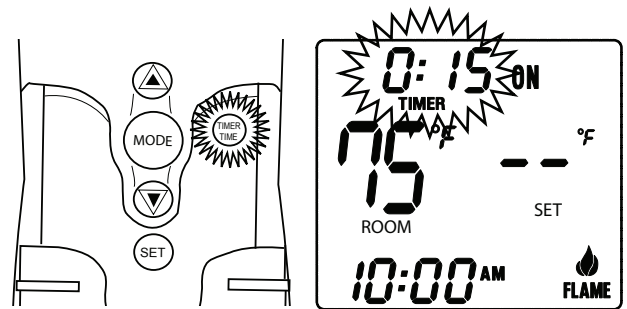

Fig. 19 Setting Timer
1. Press and release the TIMER/TIME button on the transmitter. The word **TIMER** will appear and 0:15 minutes will begin blinking on the screen (Fig. 19).
2. Press the UP or DOWN button on the transmitter to begin advancing through each of the countdown time options. Available countdown times are 15 minutes, 30 minutes, 45 minutes, 1 hour, 1 hour 30 minutes, 2 hours, 2 hours 30 minutes, and each additional half-hour up to nine (9) maximum hours.